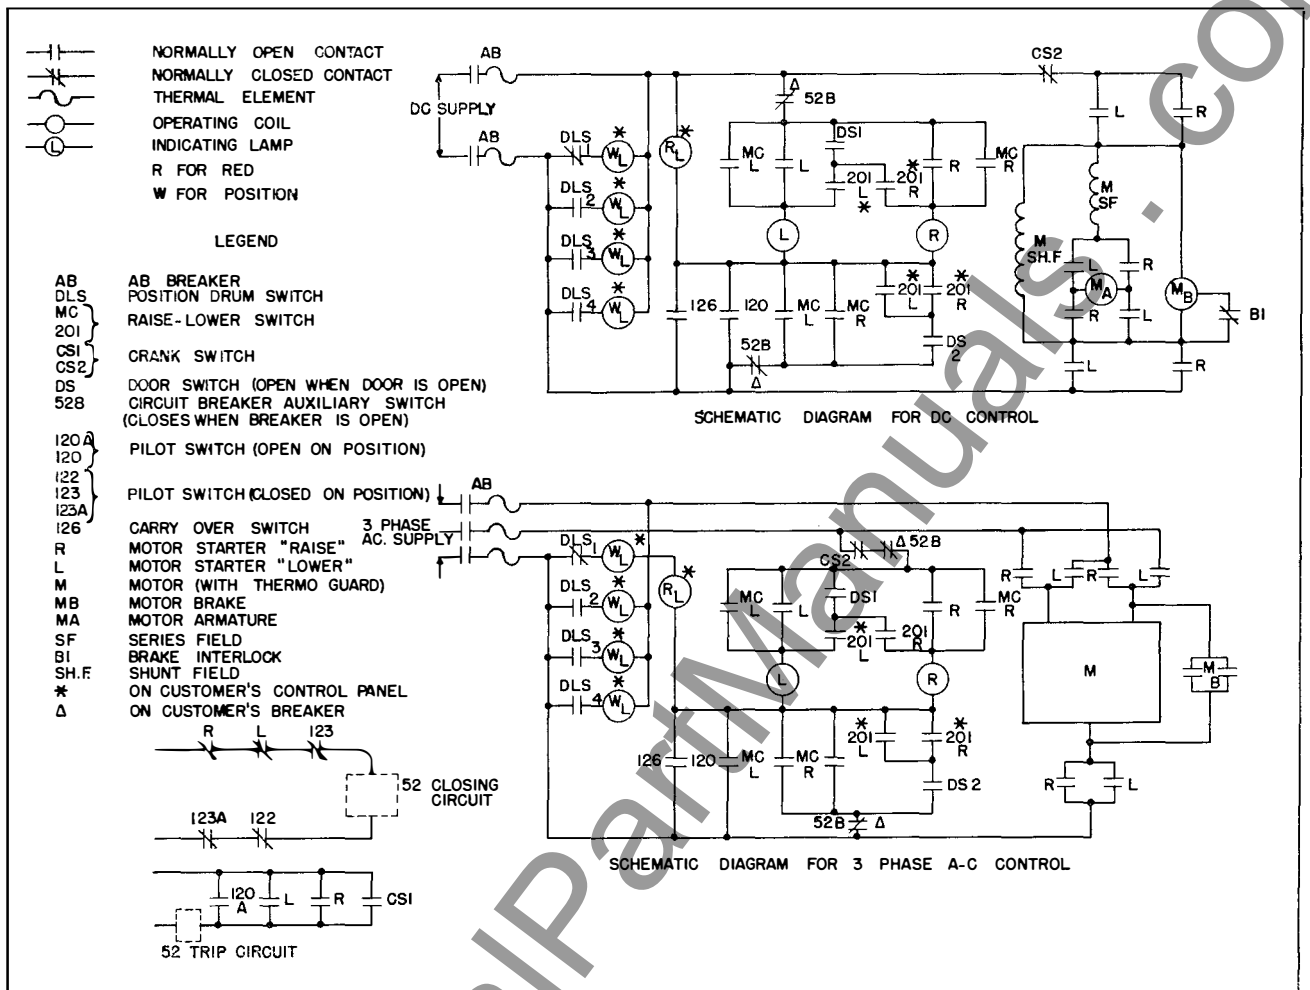

FIG. 3. Schematic Diagram for A-C and D-C Control.
The schematic control circuits for three-phase a-c, and d-c, control voltages are shown, in Fig. 3, on Position 1, de-energized with door open and crank out of position.
Other electrical interlocking is accomplished by three additional sets of switches. The door switches (DS) cut off the tap changer control circuit power, thus preventing a tap change by remote control when the mechanism door is open. The crank switch (crank shown out of position in Fig. 3) CSI, for operating the tap changer by hand, closes the circuit breaker trip-circuit, and CS2 opens the control circuit to the tap changer when the crank is inserted in the cranking position. It thus trips the breaker and insures that the transformer is de-energized while manually changing taps (as long as circuit breaker control voltage is available and breaker controls are properly connected and maintained). The circuit breaker pallet switches (52b), which are on the main circuit breaker, are open when the circuit breaker is closed and thus prevent remote operation of the mechanism when the transformer is energized.
2. Turn the control switch (201) to "Raise" or "Lower" until the desired tap change has been made.